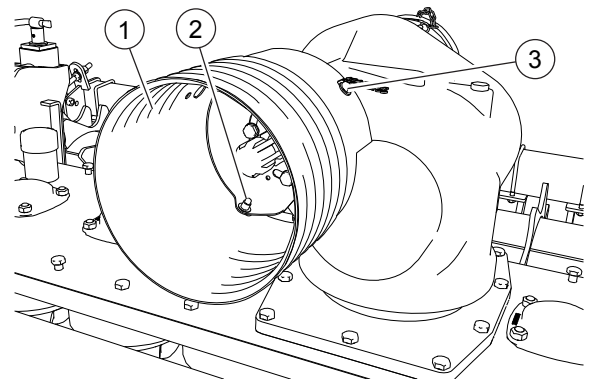

FIG. 12
- Put the guard into place (1, "Fig. 12"). Loosen the screws (2). Loosen the bolt (3).